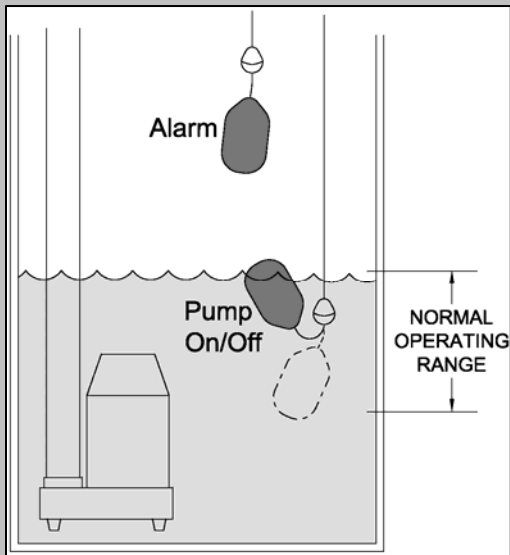

Figure 1
- Determine your normal operating level, as illustrated in **Figure 1** for a standard 2-float setup.